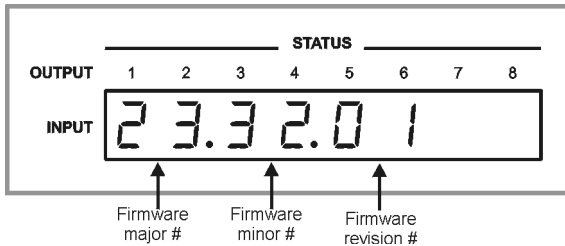

Figure 14: Status Display Immediately After Turn On
1. The firmware version (major, minor, and revision) for the first five seconds (see Figure 14)